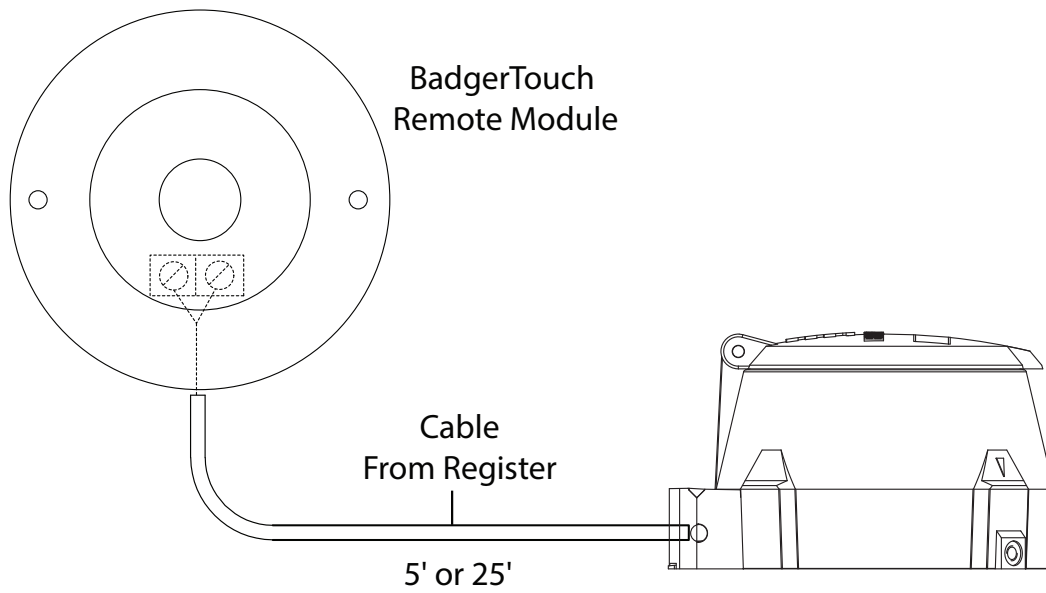

Figure 1: BadgerTouch Single Remote Configuration
**Wire Connections:** The BadgerTouch Remote Module can be installed in new or existing installations where remote meter reading is required. The remote module is connected to the recommended wire that runs between the module and the HRE or ADE. A set of terminal screws on the remote module makes this connection. The HRE or ADE is provided prewired with a 3', 6', 10', 15' or 25' length of wire that is ready for connection in existing installations. Please see Figure 1 for more information on connections. To provide best results, a maximum of 75 feet of wire (Belden #9770) between the remote module and the encoder is allowed. Other wire types may also affect performance. If an additional length of wire is used in addition to that provided with the encoder, a set of gel splices must be made.
**License Requirements:** This device complies with Part 15 of the FCC Rules. Operation of this device is subject to the following two conditions: (1) This device may not cause harmful interference, and (2) this device must accept any interference received, including interference that may cause undesired operation. Any changes made by the user not approved by Badger Meter can void the user's authority to operate the equipment. No license is required by the utility to operate a BadgerTouch meter reading system.